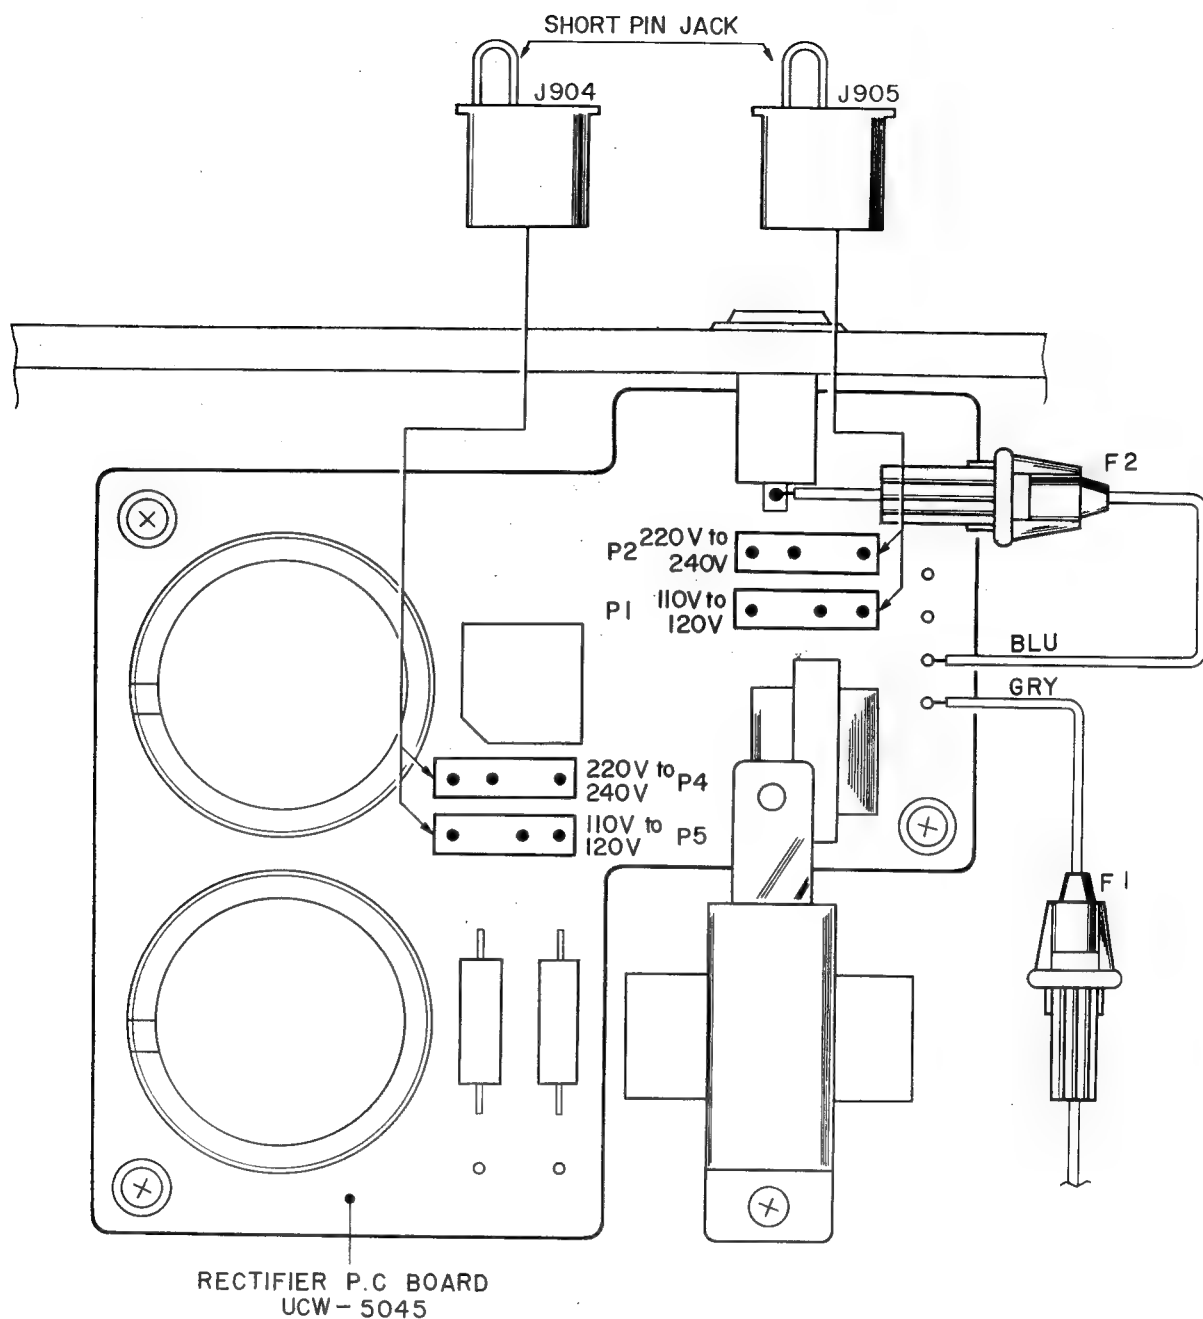

Fig. 3 Voltage Conversion (U/T Model)
1. U/T Model (Refer to Fig. 3)
- 3) Insert the short pin jacks J904 and J905 (Refer to Fig. 3).